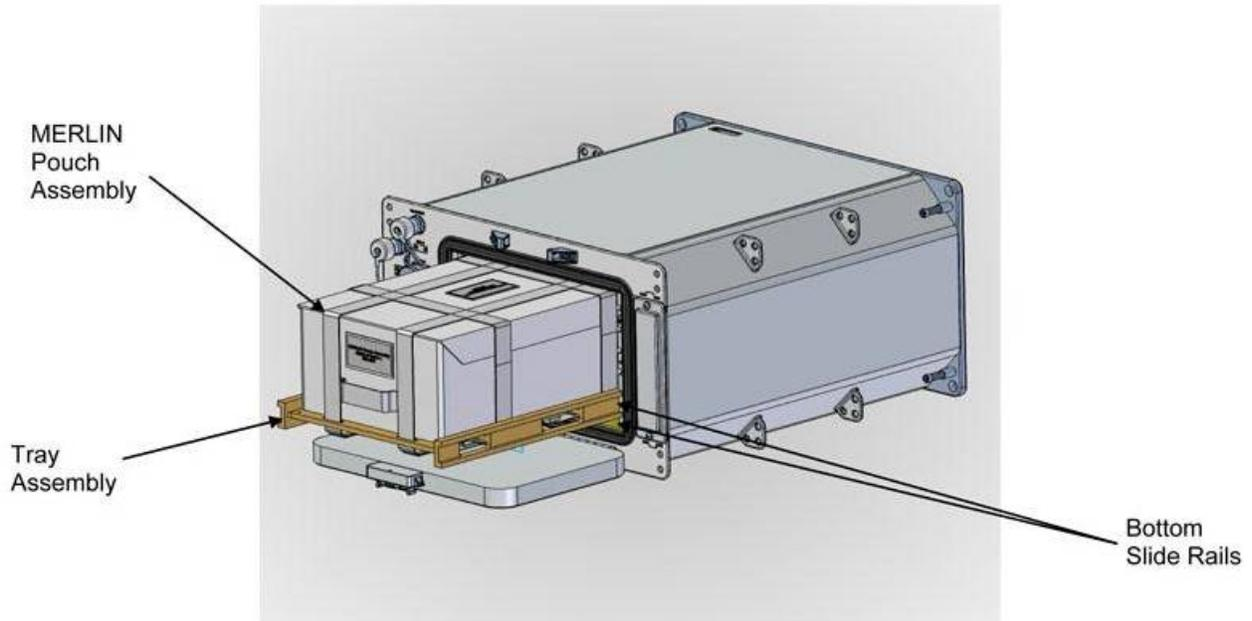

Figure 3. MERLIN Pouch Assembly Installed into MERLIN.
- 4.12 Slide Pouch/Tray Assembly into MERLIN using bottom slider rails of internal volume, with label facing outward. Refer to Figure 3.